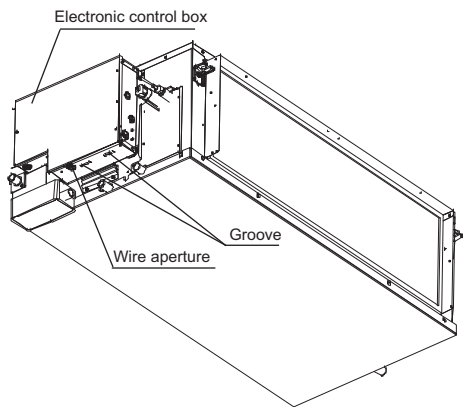

Fig. 23 —LED Display Panel Installation Location
2. Insert the buckles into the grooves in the electronic control box, and slide the display panel horizontally to lock in place (see Fig. 23 and 24).